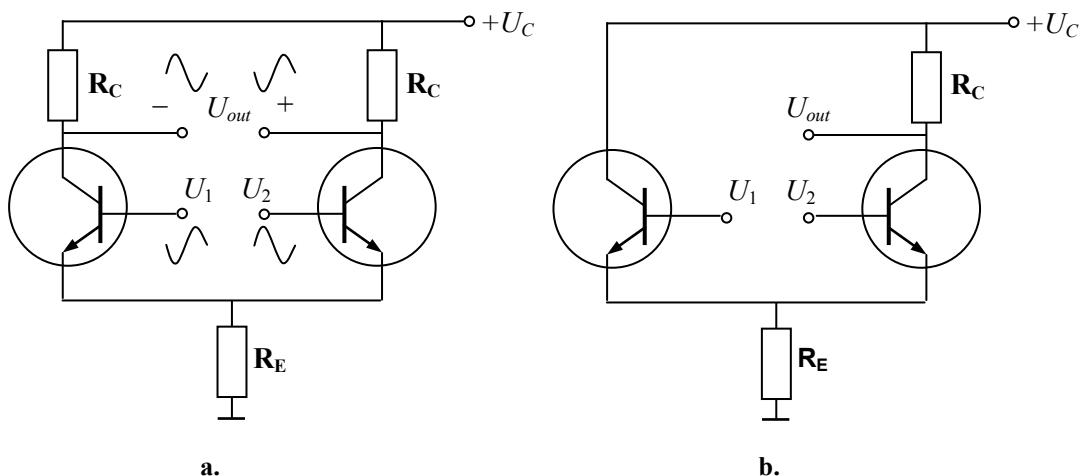

Fig. 2.15
**Differential amplifiers.** A *differential amplifier*, or *diff amp* is the two-input device that amplifies the difference of both inputs. It serves as the typical input stage of many amplifiers. Fig. 2.15,a presents a general form of the diff amp that is termed as a *long-tailed pair* because  $R_E$  is called a *tail resistor*. The diff amp has two inputs –  $U_1$  and  $U_2$ . Because there are no coupling or bypass capacitors, the input signals can have frequencies all the way
That is why any encumbrances and spikes of the input signals and supply voltage pulses compensate one another. On the other hand, when  $U_1$  is greater than  $U_2$ , an output voltage with the polarity shown in Fig. 2.15,a appears. When  $U_1$  is less than  $U_2$ , the output voltage has the opposite polarity. In any case, the output voltage is proportional to the difference of the input signals. The difference signal is amplified with a great gain.
Fig. 2.15,b illustrates the modified topology of the diff amp. Here, a growing of  $U_1$  produces an increase in the output voltage. The  $U_1$  input voltage is called a *non-inverting voltage* because the output voltage is in phase with  $U_1$ . On the other hand, the  $U_2$  input voltage is called an *inverting input* because the output voltage is 180 degrees out of phase with  $U_1$ .